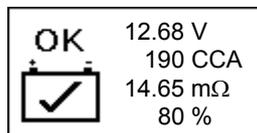

Fig. 65
2. Press  key will get into the test result display as example shown (Fig.65).